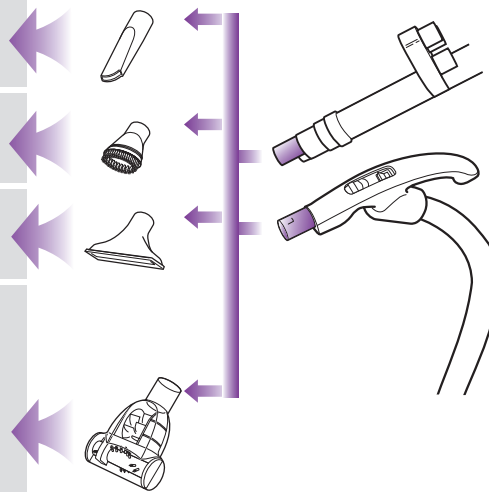

Fig. 9
- 1 Firmly push the desired accessory onto the end of either the flexible hose handle or the telescopic tube to clean hard to reach places. (Fig. 9)